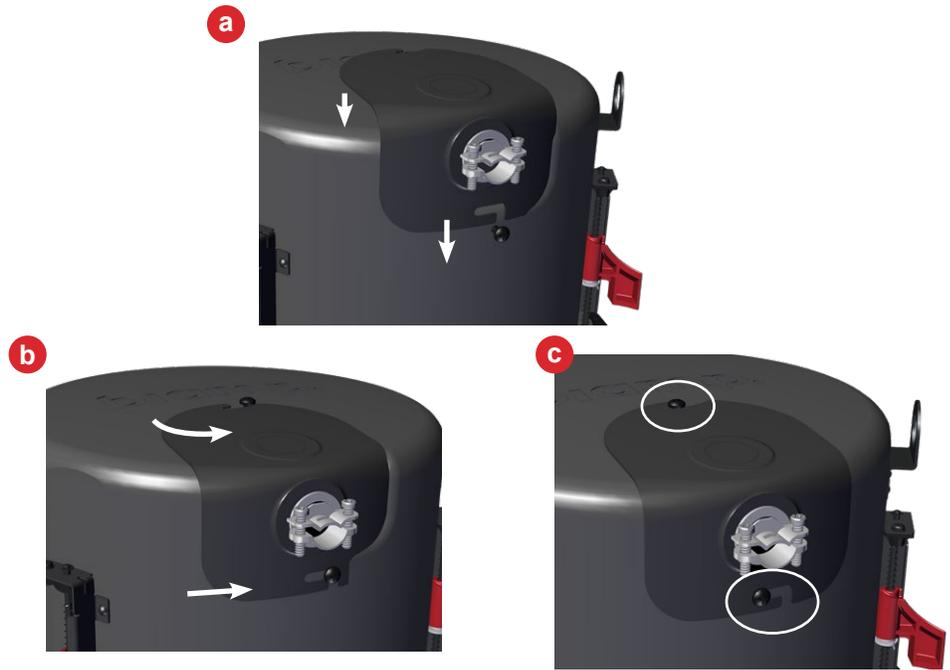

Figure 3. Attach cover (cable not shown)
7. Install the cover as shown (a-b) and secure by tightening the circled screws (c) (Figure 3).